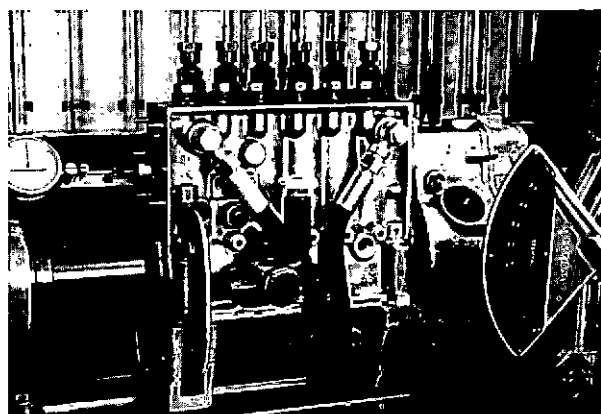

Fig. 60 Checking governor run-out
- (ii) Attach the setting rig 0 681 440 006 as shown in fig. 60. Note that the rack travel measuring rig used in Stage 'A' is still fitted.